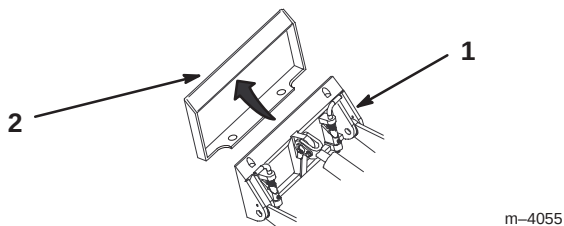

Figure 17
4. Position mount plate into the upper lip of the attachment receiver plate (Fig. 17).